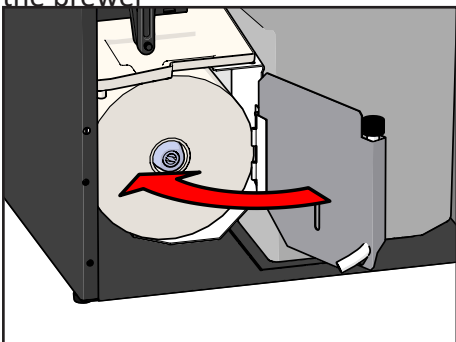

Figure 78. Close the door of the paper holder
12. Close the door of the paper holder (see Figure 78).